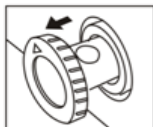

Fig.2
- Situated at the rear bottom corner of the appliance, is a small plastic drain tap. Place a container under the drain tap to catch the defrosted water. Pull out the tap just enough to where you can see the hole in the pipe, rotate the hole so that it is at the bottom, water will flow into the container. This may take several attempts to drain all the water. After the draining has been completed, replace the rubber cap in the appliance and rotate the drainage tap so that the hole is facing upwards and push it flush to the appliance. Fig.2,3,4.